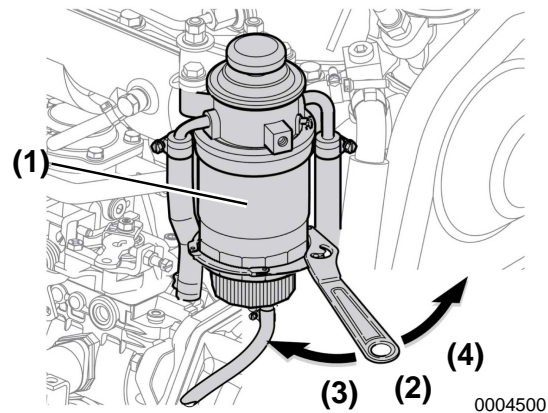

Figure 14
(**Figure 14, (1)**) with a filter wrench
(**Figure 14, (2)**).